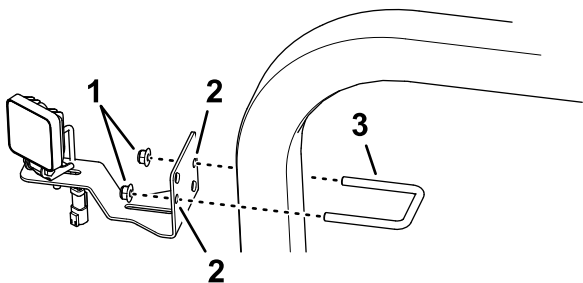

Figure 6
1. Assemble the LED light and bracket to the ROPS tube with the U-bolt (3/8 x 2-7/16 x 2-13/16) and flange locknut as shown in Figure 6.